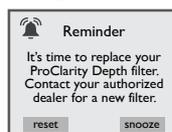

Figure 15.0e
- ProClarity Depth Filter Reminder: This message will appear when the filter reminder time has expired (Figure 15.0e). The ProClarity Depth filter must be replaced.